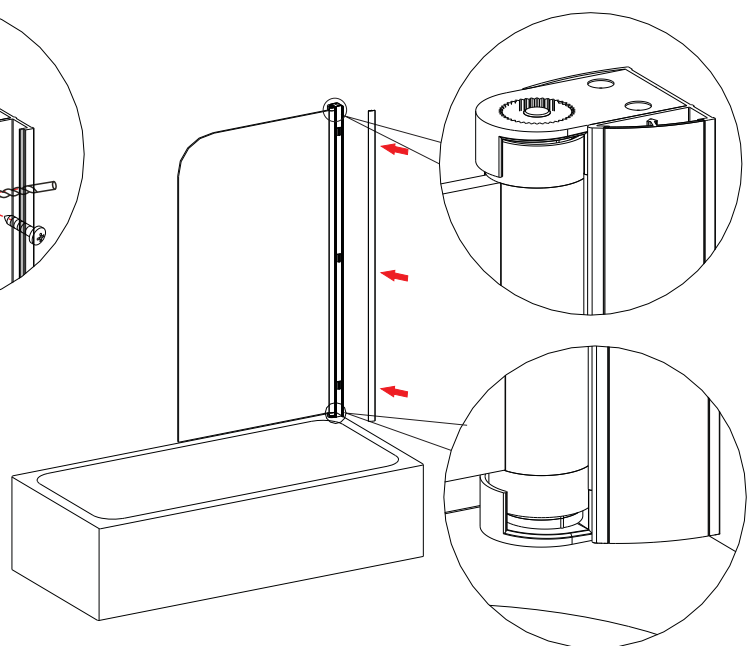

FIG 6
6. Attach the cover strip to the wall profile. Starting at the bottom firmly press cover strip into place and gradually work from bottom to top **Fig 6.**